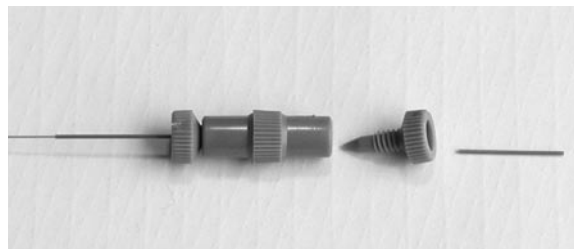

Figure 5.5: Union, compression fitting, and MicroTight® sleeve cut to 14 mm
- 4) Carefully trim a new green MicroTight® sleeve to a length of approximately 14 mm, as shown in Figure 5.5. The shorter sleeve will allow the coating on the PicoTip to contact the conductive elastomer inside the CTM.